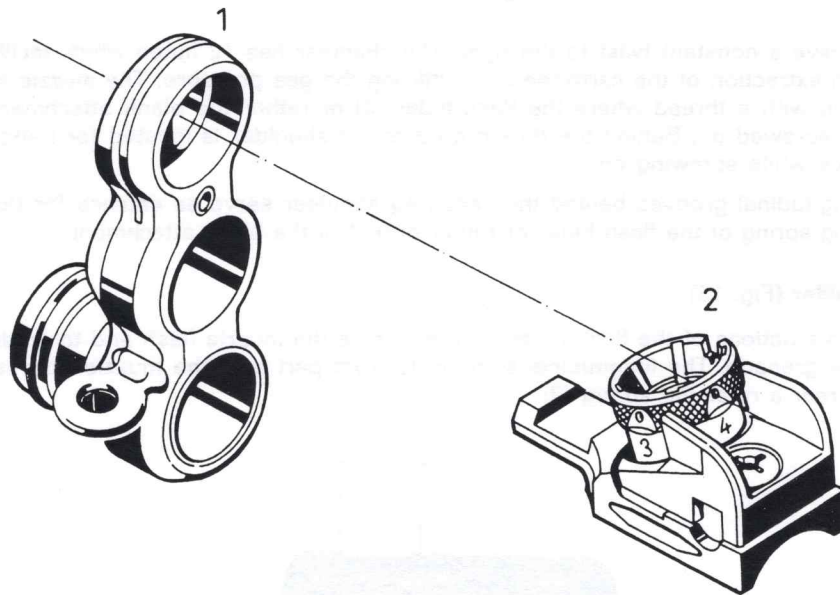

Fig. 14: Rotary rear sight device
**Rotary rear sight device (Fig. 14, 15 and 16)**